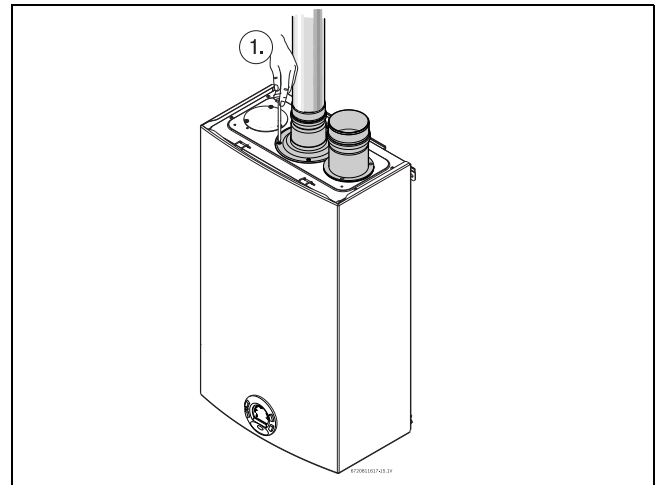

Fig. 17 Exhaust connection
- ▶ Attach the flue gas exhaust accessory to the top of the unit fig. 17 (position 1) using the 4 screws and gasket provided, and fully insert vent pipe into the accessory.